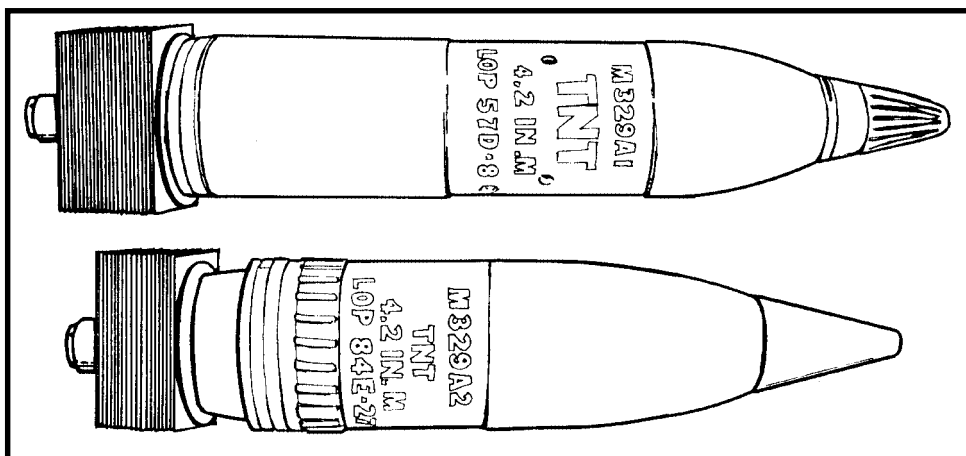

Figure 6-26. High-explosive 4.2-inch cartridges, M329A1 and M329A2 showing supplemental charge.
b. **Type.** Depending on the type of projectile filler, ammunition is classified as high explosive (HE), smoke (PWP or WP), or illumination (Figures 6-26 to 6-28.)